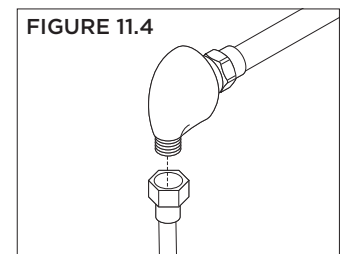

FIGURE 11.4
4) Attach small end of hand shower hose to wall elbow. Turn clockwise to tighten (FIGURE 11.4).